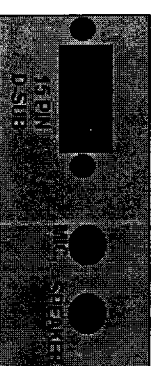

Figure 1
- Internal 2Wx2 Speaker/1 microphone(as seen in Figure 1)